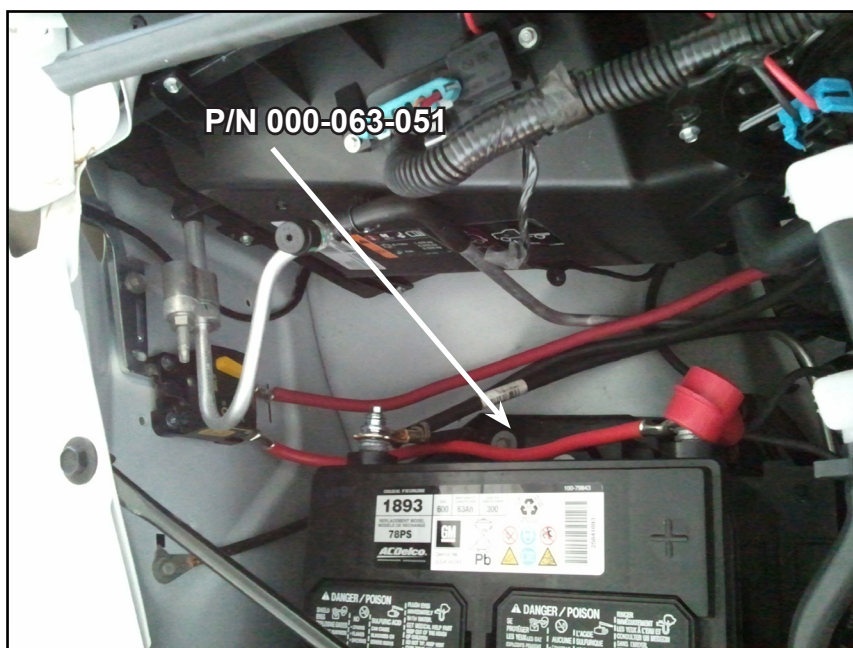

Figure 105. Connect EWS Power Cable (P/N 000-063-051)
- Using one of the new long style posts and a stud (see Figure 104), connect the vehicle ground cable, spacer and EWS negative cable to the negative terminal (-) of the battery as shown in Figure 105. Tighten the connection.
- Using the other new long style post and a stud, connect the vehicle positive cable (red), spacer and the circuit breaker input cable (red - P/N 000-063-051) to the positive terminal (+) of the battery as shown in Figure 105. Carefully tighten the connection.